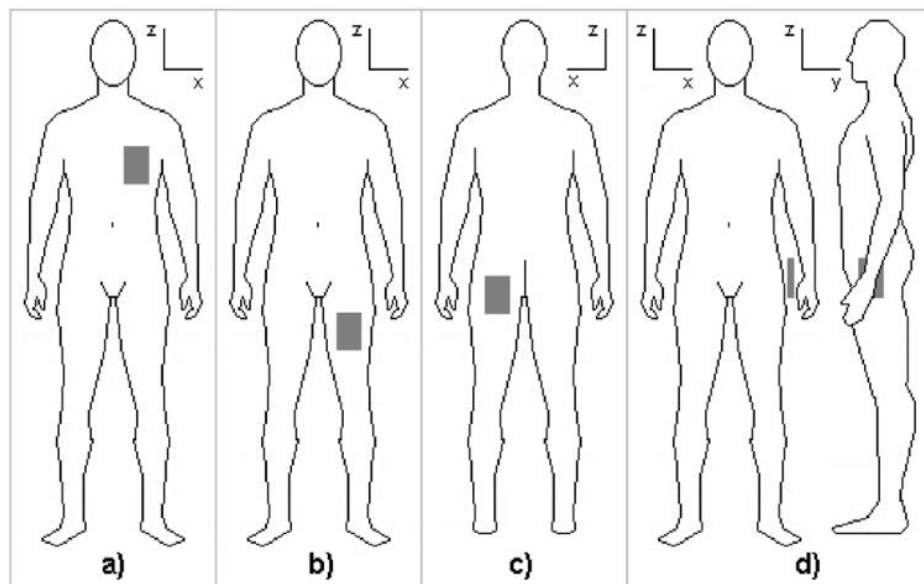

**Fig. 1: Experimental setup.**
**Figure 1.** Side view of a simulated mobile phone consisting of (1) front and (7) back plastic case, (2) glass screen, (3, 5) aluminium covers, (4) circuit board, (6) battery, and two resistor components with  $Al_2O_3$  substrates (R1 and R2).